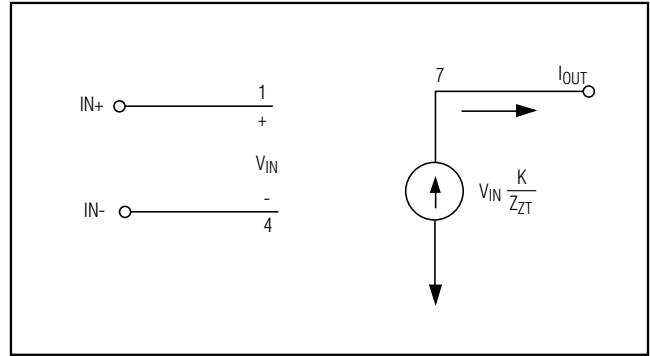

Figure 1. Operational Mode
The output is essentially a voltage-controlled current source as shown in Figure 1. The MAX9547 output is a current proportional to the differential input voltage, and inversely proportional to the impedance of the user-selected transconductance network, Z_{ZT} . The current output provides inherent short-circuit protection for the output terminal. A differential input voltage applied to the input terminals causes current to flow in the transconductance element (Z_{ZT}), which is equal to V_{IN} / Z_{ZT} . This current in the transconductance element is multiplied by the preset current gain (K) and appears on the output terminal as a current equal to $(K) \times (V_{IN} / Z_{ZT})$. This current flows through the load impedance to produce an output voltage according to the following equation: